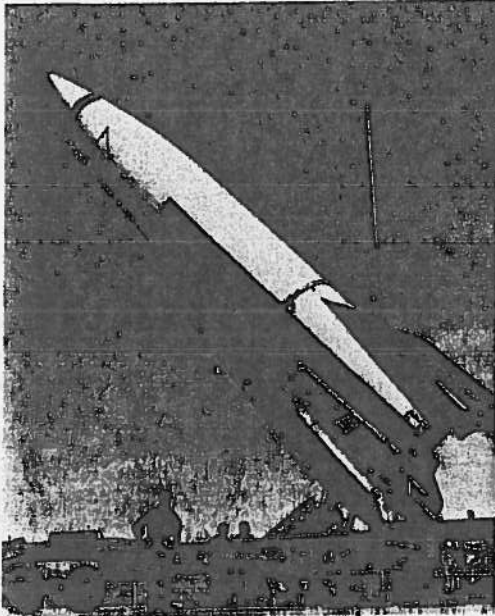

Fig. H-4-4.
- The Germans experimented with rockets throughout the 1930s. They were searching for a replacement for the long-range artillery they were forbidden to have after WW I. In 1944, their research eventually led to the development of the V-2 rocket. This was the first large rocket to exceed the speed of sound. More than 1,300 V-2s were launched against Britain in the closing months of WW II. Fig. H-4-4.